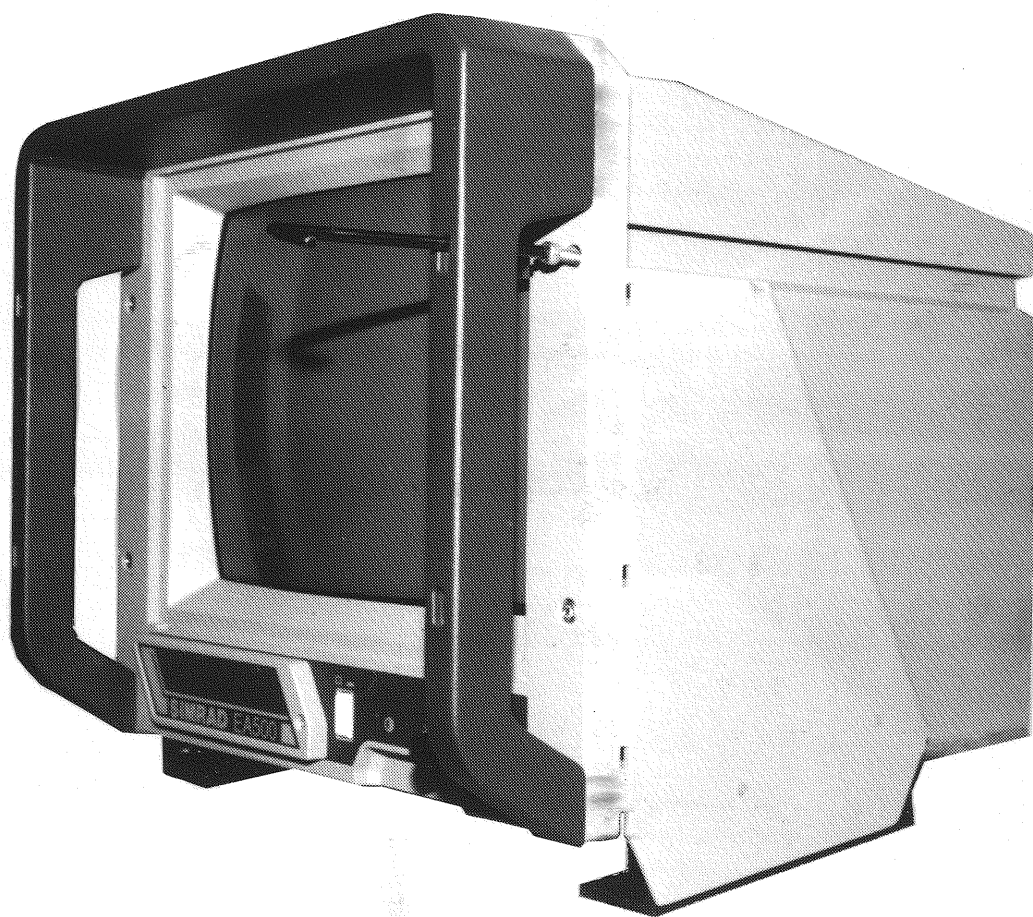

Figure 6 The CF140 - Removing the screen bolts
1. Remove the four bolts locking the display to the frame. Use an Allen key, access is made through the four holes in the handles. Refer to Figure 6 for an illustration. Carefully remove the display, and place it in a safe and stable position.
2. Remove the four bolts locking the display to the frame. Use an Allen key, access is made through the four holes in the handles. Refer to Figure 6 and for an illustration.